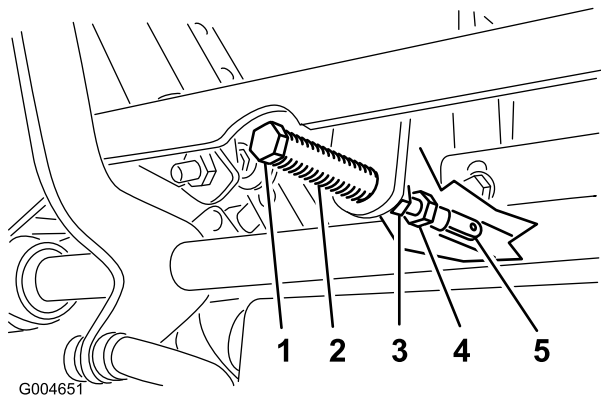

Figure 50
5. Pull the lever back until the clevis pin (on an arm above the pivot shaft) contacts the end of the slot (just beginning to put pressure on the spring) as shown in Figure 50.
7. If adjustment is needed, loosen the nut and jam nut against the yoke (Figure 50).
8. Applying slight rearward pressure on the motion-control lever, turn the head of the adjustment bolt in the appropriate direction until the control lever is centered in the NEUTRAL-LOCK position (Figure 50).
9. Tighten the nut and jam nut (Figure 50).
10. Tighten the jam nuts at the ball joints (Figure 50).